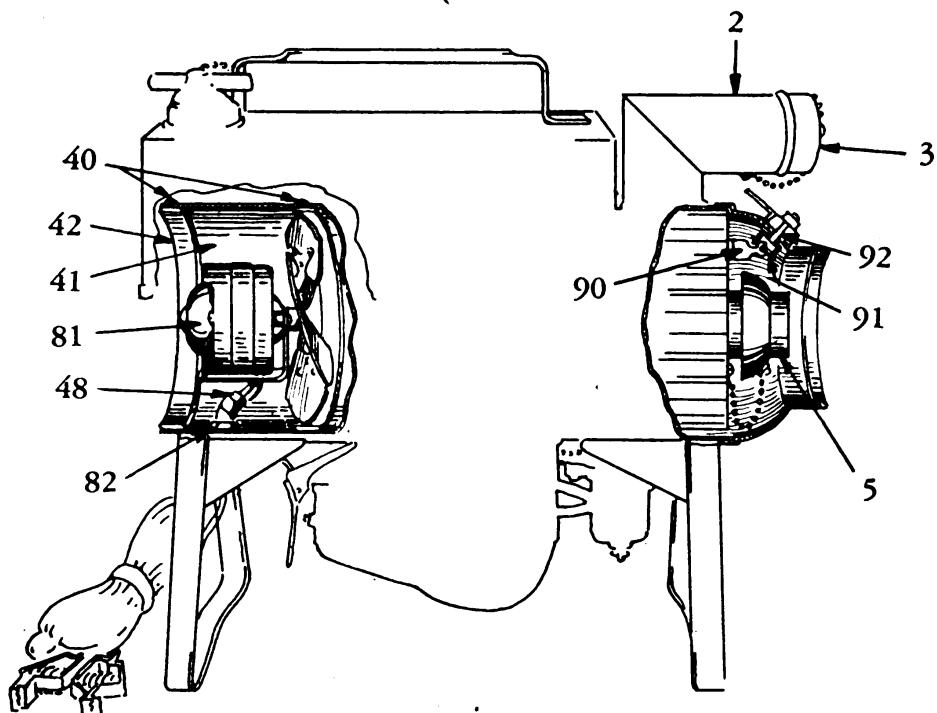

Figure 6. Diffuser plug and motor assemblies.
- d. Turn motor switch (10) OFF.
- e. Disconnect extension cord (11) from battery and wrap extension cord around legs of heater.
10. FOR CLEAN, HEATED AIR (fig. 6). When heater is adjusted to deliver only clean, heated air from the heater outlet, it is suitable for space heating of personnel compartments.
- a. Unplug stack plug (3).
- b. Place diffuser plug (5) in closed position.
11. FOR CONTAMINATED AIR (fig. 6). When heater is adjusted to deliver contaminated air from the heater outlet, the useful heat output of the heater is increased. This is designed primarily for applications where products of combustion would not be harmful.
- a. Place diffuser plug (5) in open position.
- b. Place stack plug (3) into stack (2).
16. HEATER DISASSEMBLY (figs. 6, 7, 9, and 10).